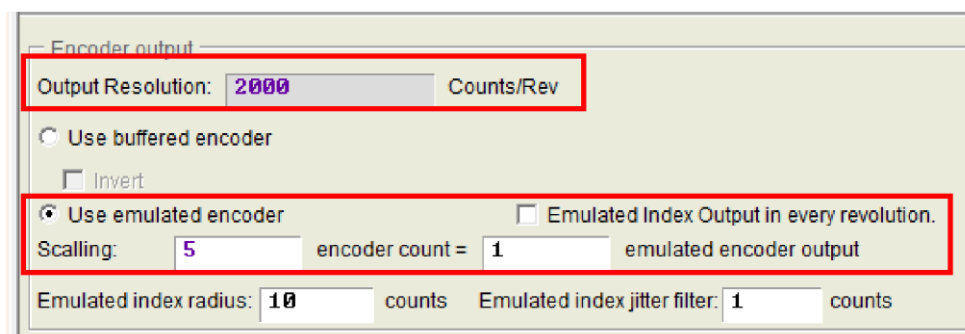

Fig. 4-17 Emulated encoder output
- ※ Using AC servo motors with a 17-bit encoder, users can use the emulated encoder (Fig. 4-17, Emulated Index Output in every revolution) to output the Z phase signal to the host controller.
If an analog signal from an analog encoder is divided into very small segments, scaling might be needed to reduce the output resolution of the encoder. The output direction can be changed when the ratio is set to 1 encoder count = -1 emulated encoder output. In Fig. 4-17, for example, the encoder resolution is 10,000 counts/rev and the scaling for the emulated encoder output is 5 encoder count = 1 emulated encoder output, so the 'Output Resolution' becomes 2,000 counts/rev.
When an AC servo motor with a 17-bit encoder is used, and the encoder output mode is set to emulated encoder output, the Z phase signal can be sent to the host controller. The option for this setting is the 'Emulated Index Output in every revolution' in Fig. 4-17.